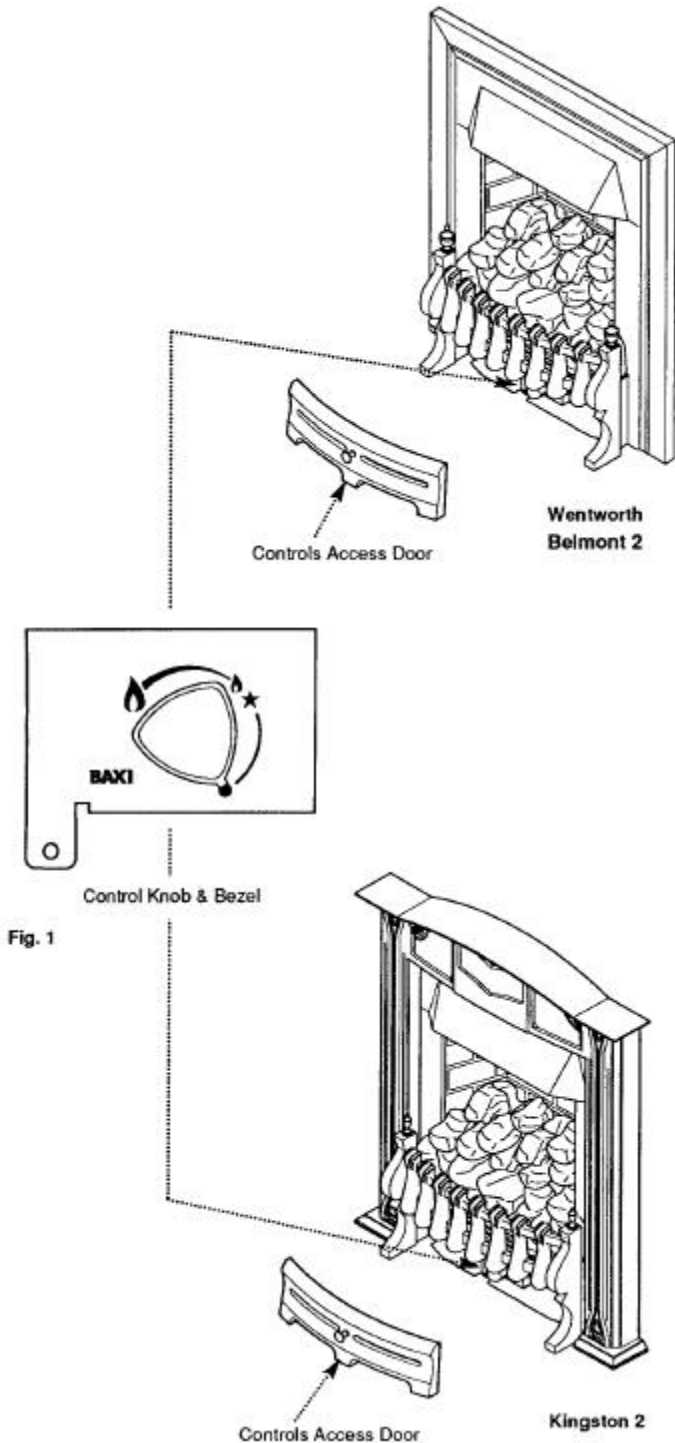

Fig. 1
3. The fire is controlled by a knob which is positioned behind the controls access door on the fender assembly (Fig. 1). The knob has four positions: